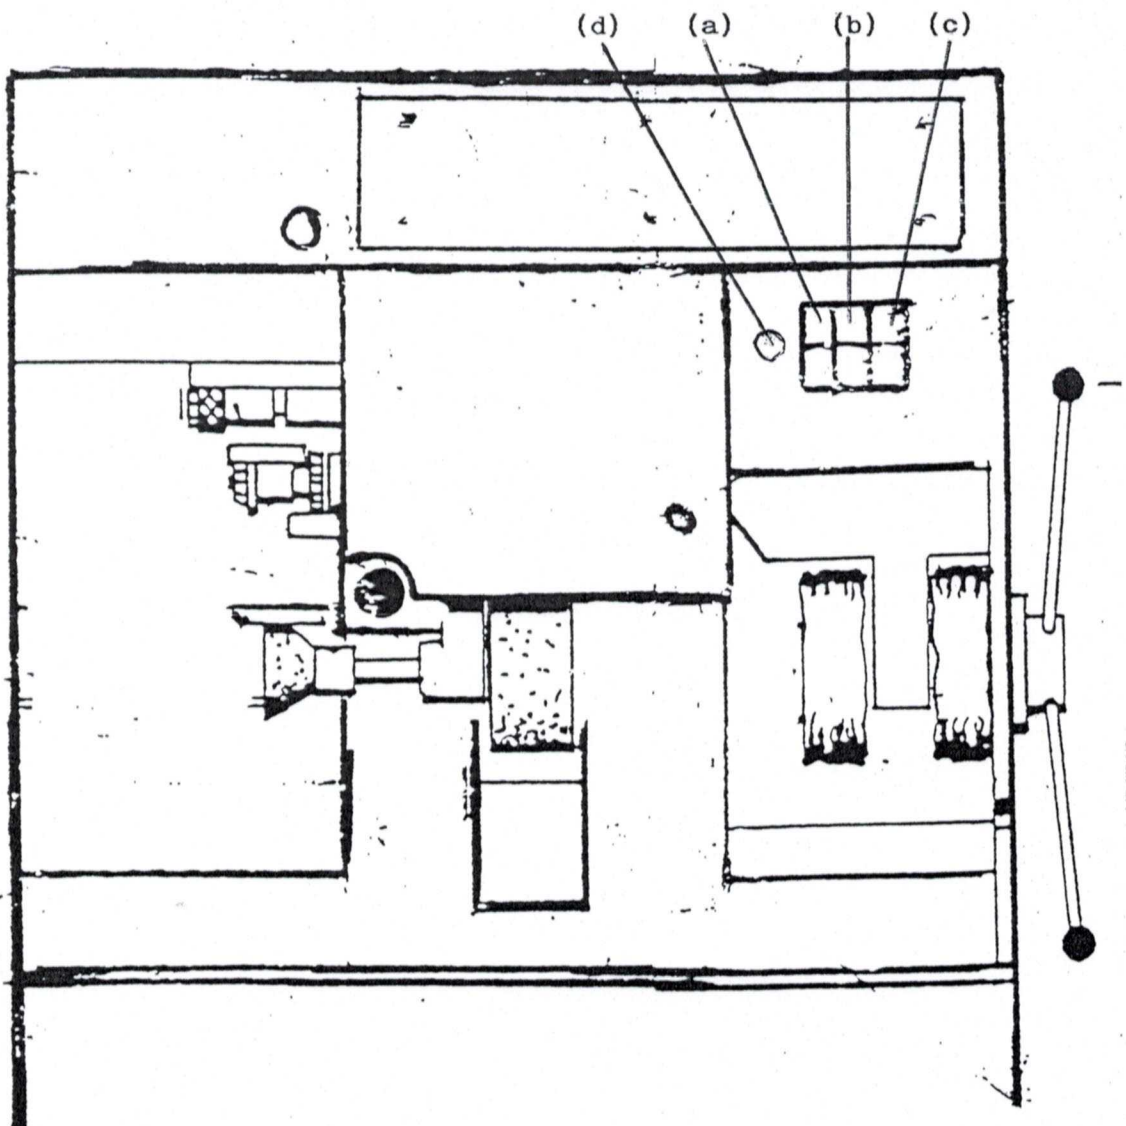

Fig. 7
6.3 Manual Controls - Electrical (fig. 7).